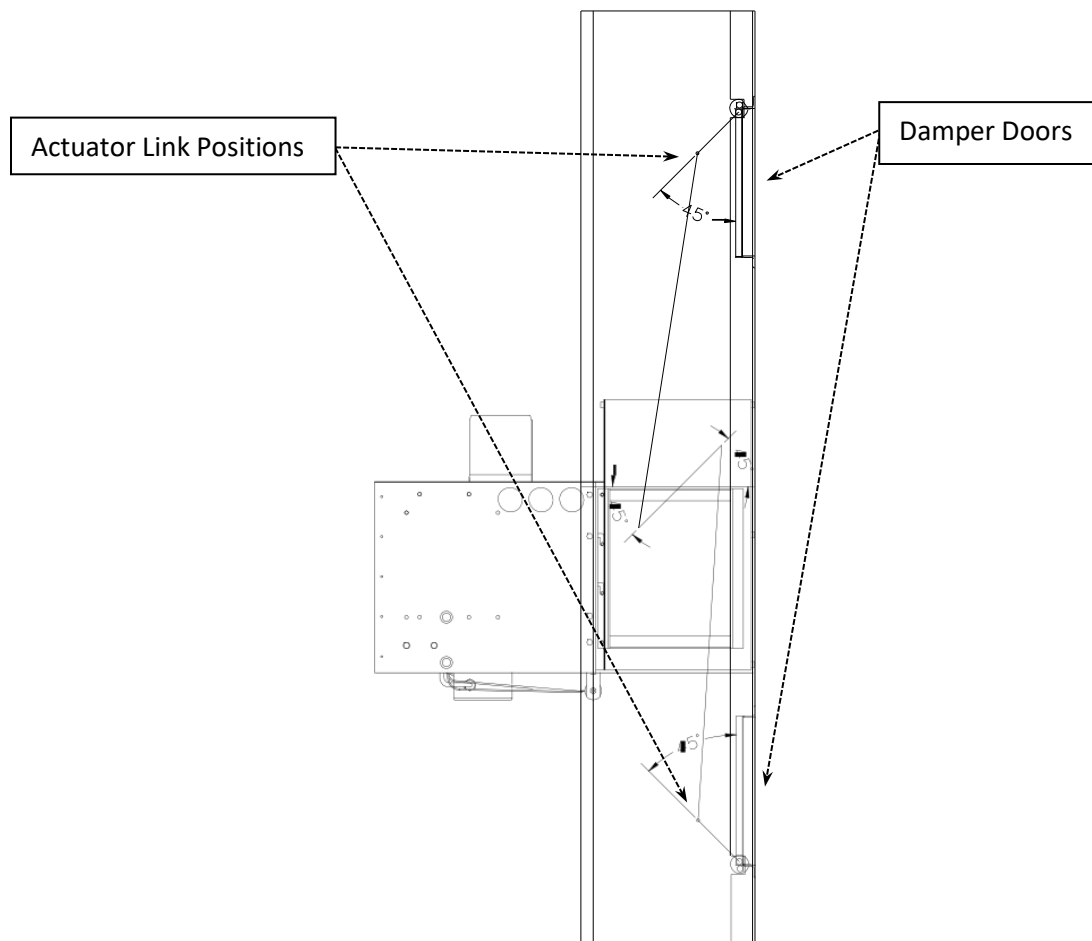

Figure 6 – Linkage adjustment; dampers shown in closed position
1. With both damper doors closed, verify the control arms on the damper and actuator shaft are at an angle of 45° from the duct walls. See Figure 6 below.